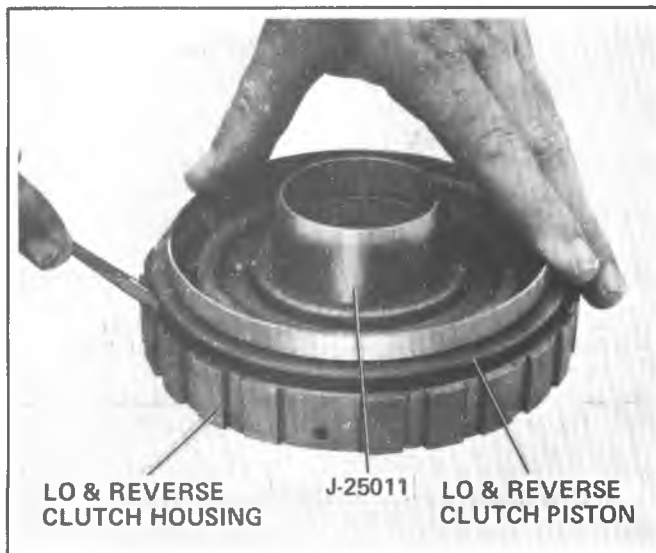

Figure 7A6-106 Installing Lo and Reverse Clutch Piston
4. Using a smooth flat edged small screwdriver or piston installing tool (Figure 7A6-135), install lo and reverse clutch piston, while rotating pushing down into place (Figure 7A6-106).
6. Install waved release spring (Figure 7A6-103).
7. Install retainer, cupped faced down (Figure 7A6-102).
8. Compress retainer and install snap ring (Figure 7A6-102).